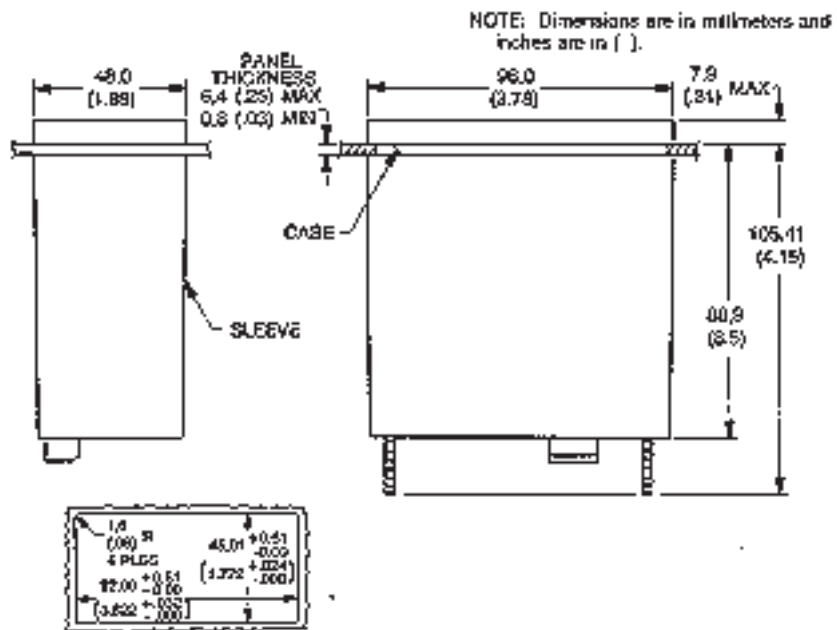

Figure 3-2 DIN Case Dimensions
- Figure 3-2** DIN Case Dimensions
3. Verify the panel cutout dimensions in Figure 3-2 Case Dimensions. Insert the case in the panel cutout from the front and slide the sleeve on from the rear. Install the two #8 screws to secure the sleeve to the case.